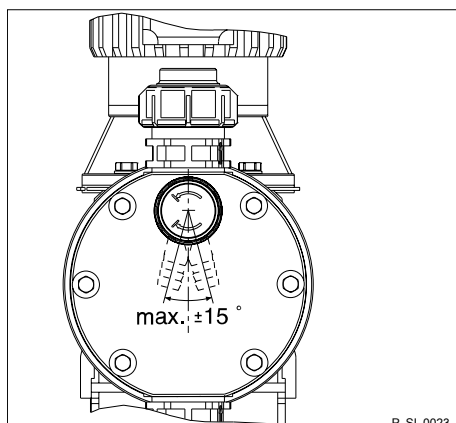

Fig. 17: Permissible alignment of the relief valve
- Route the overflow line with a continuous slope and moreover with the hose sleeve pointed downwards - see Fig. 17.